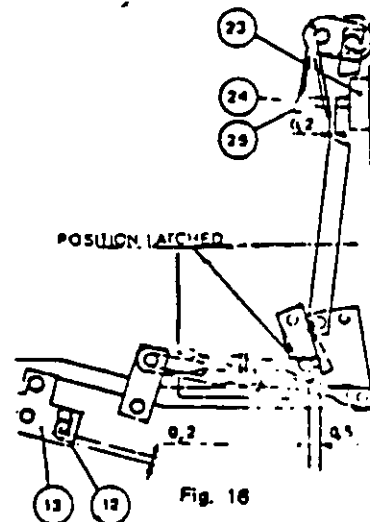

Fig. 16
- b) Inspection. With the breaker in the open position, press the trip button (23) Fig. 16 and check travel of release bar. Distance between maximum position of reset and latch should be 0.5 mm (0.020